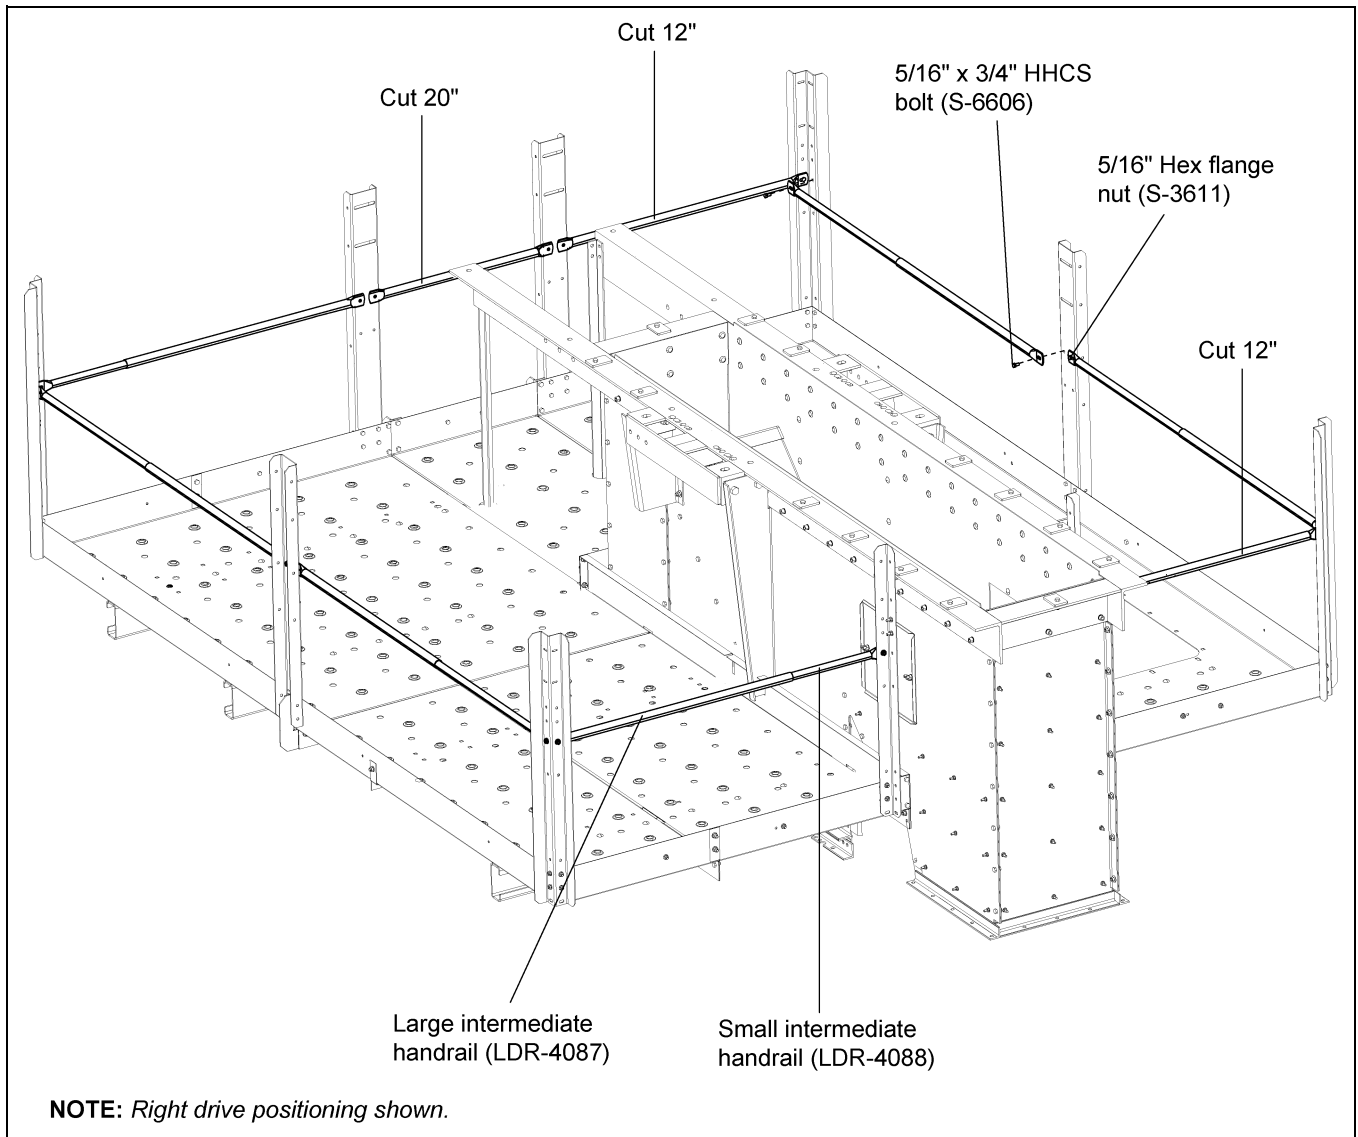

Figure 10K
3. Install the remaining Intermediate handrails around the platform using 5/16" x 3/4" bolts (S-6606) and nuts. (See Figure 10K.)